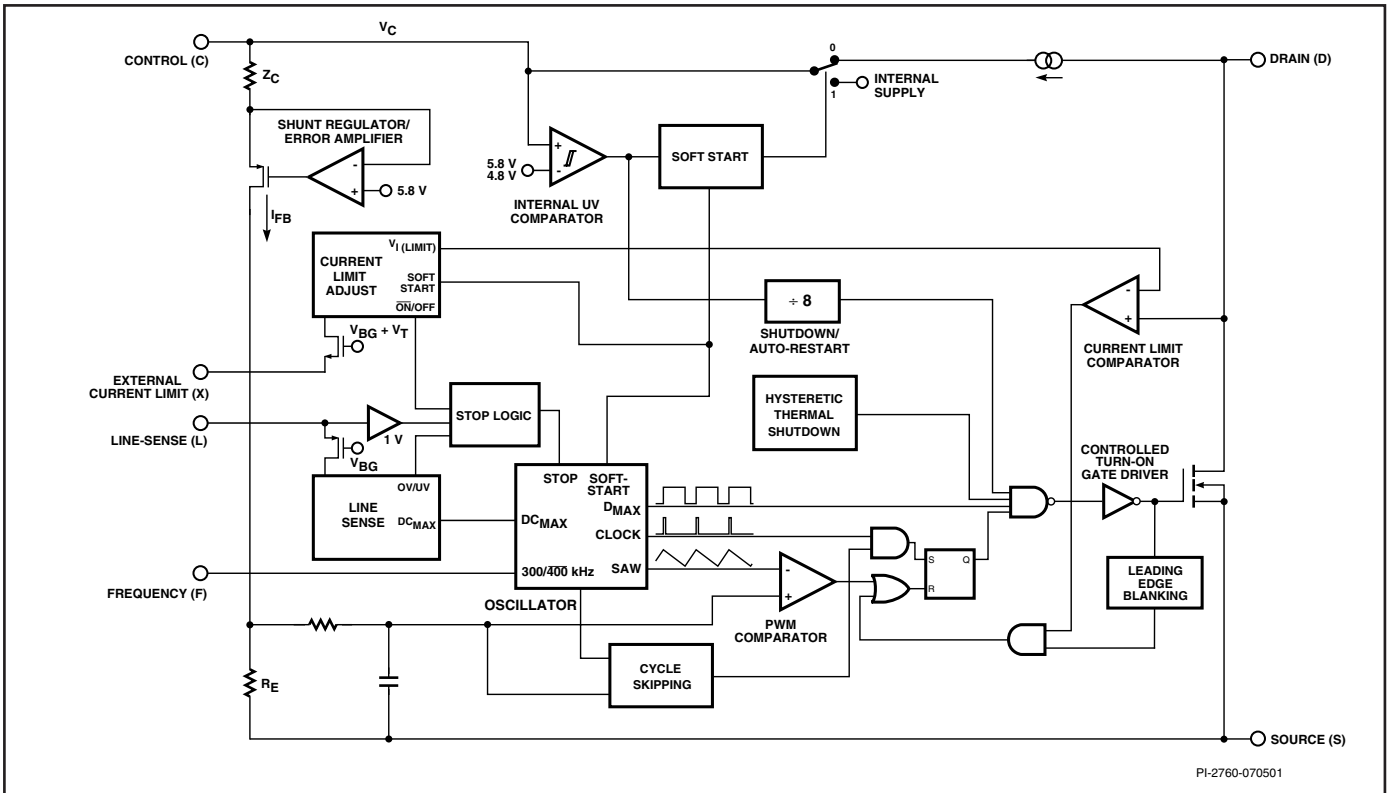
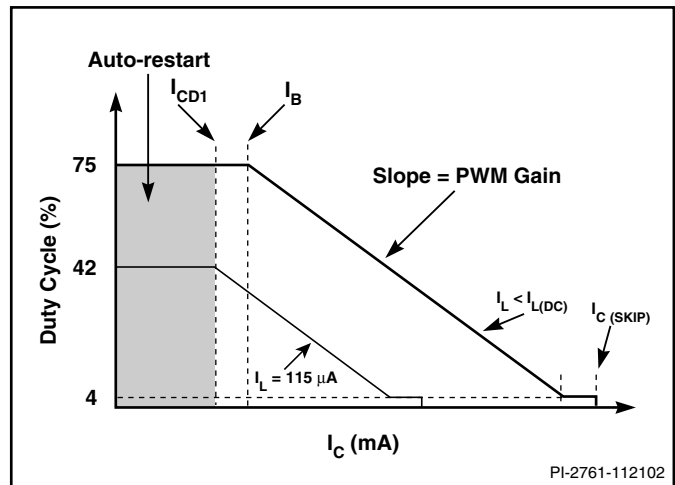

Figure 2. Functional Block Diagram.
Figure 4. Relationship of Duty Cycle to CONTROL Pin Current.
*DPA-Switch* is an integrated switched mode power supply chip that converts a current at the control input to a duty cycle at the open drain output of a high voltage power MOSFET. During normal operation the duty cycle of the power MOSFET decreases linearly with increasing CONTROL pin current as shown in Figure 4. A patented high-voltage CMOS technology allows both the high-voltage power MOSFET and all the low voltage control circuitry to be cost effectively integrated onto a single monolithic chip.
The pulse width modulator implements voltage mode control by driving the output MOSFET with a duty cycle inversely proportional to the current into the CONTROL pin that is in excess of the internal supply current of the chip (see Figure 4). The excess current is the feedback error signal that appears across  $R_E$  (see Figure 2). This signal is filtered by an RC network with a typical corner frequency of 30 kHz to reduce the effect of switching noise in the chip supply current generated by the MOSFET gate driver. The filtered error signal is compared with the internal oscillator sawtooth waveform to generate the duty cycle waveform. As the control current increases, the duty cycle decreases. A clock signal from the oscillator sets a latch that turns on the output MOSFET. The pulse width modulator resets the latch, turning off the output MOSFET. Note that a minimum current must be driven into the CONTROL pin before the duty cycle begins to change.
To maintain power supply output regulation, the pulse width modulator reduces duty cycle as the load at the power supply output decreases. This reduction in duty cycle is proportional to the current flowing into the CONTROL pin. As the CONTROL pin current increases, the duty cycle reduces linearly towards a minimum value specified as minimum duty cycle,  $DC_{MIN}$ . After reaching  $DC_{MIN}$ , if CONTROL pin current is increased further by approximately 2 mA, the pulse width modulator will force the duty cycle from  $DC_{MIN}$  to zero in a discrete step (refer to Figure 4). This feature allows a power supply to operate in a cycle skipping mode when the load consumes less power than the *DPA-Switch* delivers at minimum duty cycle,  $DC_{MIN}$ . No additional control is needed for the transition between normal operation and cycle skipping. As the load increases or decreases, the power supply automatically switches between normal and cycle skipping mode as necessary.
The same resistor used for UV and OV also implements line voltage feed-forward that minimizes output line ripple and reduces power supply output sensitivity to line transients. This feed-forward operation is illustrated in Figure 4 by the different values of  $I_L$ . Note that for the same CONTROL pin current, higher line voltage results in smaller operating duty cycle. As an added feature, the maximum duty cycle  $DC_{MAX}$  is also reduced from 75% (typical) at a voltage slightly higher than the UV threshold to 33% (typical) at the OV threshold (see Figures 4, 7). Limiting  $DC_{MAX}$  at higher line voltages helps prevent transformer saturation due to large load transients in forward converter applications.  $DC_{MAX}$  of 33% at the OV